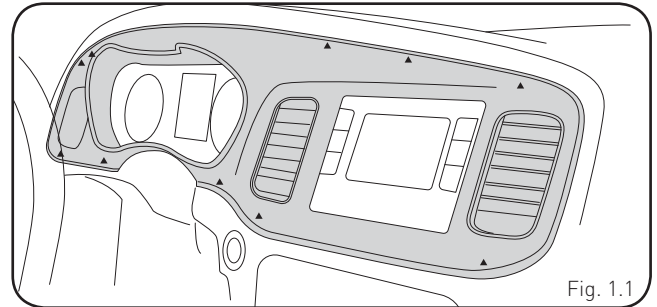

Fig. 1.1
1. Adjust the steering wheel down and outward to make clearance for removing the radio trim bezel. (Fig. 1.1)
2. Using a panel tool, pry outward on the dash trim and remove it. There are 10 clips securing it to the dash. (Fig. 1.1)